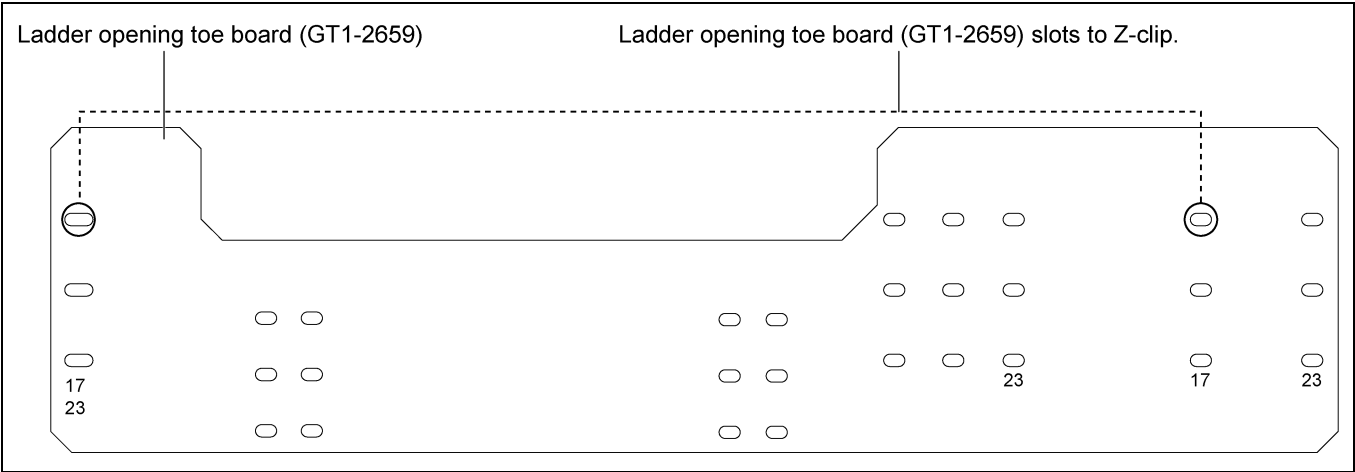

Figure 4H 17' Ladder Opening Toe Board (GT1-2659)
2. At the ladder location, install the ladder opening toe board (GT1-2659) to Z-clips using 3/8"-16 x 1" JS grade 8 or grade 8.2 bolts (S-7485) and 3/8"-16 ZN grade 5 nuts (S-968) in such a way that toe board opening falls on the ladder path. *(See Figure 4G below and Figure 4H on Page 20.)*